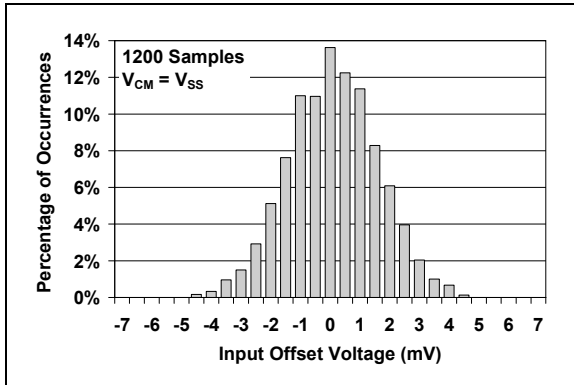

**FIGURE 1-3:** AC and DC Test Circuit for the Open-Drain Output Comparators.
**Electrical Specifications:** Unless otherwise indicated,  $V_{DD} = +1.6V$  to  $+5.5V$ ,  $V_{SS} = GND$ ,  $T_A = 25^{\circ}C$ ,  $V_{IN+} = V_{DD}/2$ ,  $V_{IN-} = V_{SS}$ ,  $R_{PU} = 2.74$  k $\Omega$  to  $V_{PU} = V_{DD}$  (Refer to Figure 1-3).
**Electrical Specifications:** Unless otherwise indicated,  $V_{DD} = +1.6V$  to  $+5.5V$ ,  $V_{SS} = GND$ ,  $T_A = 25^\circ C$ ,  $V_{IN+} = V_{DD}/2$ ,  $V_{IN-} = V_{SS}$ ,  $R_{PU} = 2.74\text{ k}\Omega$  to  $V_{PU} = V_{DD}$  (Refer to Figure 1-3).
**Electrical Specifications:** Unless otherwise indicated,  $V_{DD} = +1.6V$  to  $+5.5V$ ,  $V_{SS} = GND$ ,  $T_A = 25^\circ C$ ,  $V_{IN+} = V_{DD}/2$ , Step = 200 mV, Overdrive = 100 mV,  $R_{PU} = 2.74\text{ k}\Omega$  to  $V_{PU} = V_{DD}$ , and  $C_L = 36\text{ pF}$  (Refer to Figure 1-2 and Figure 1-3).